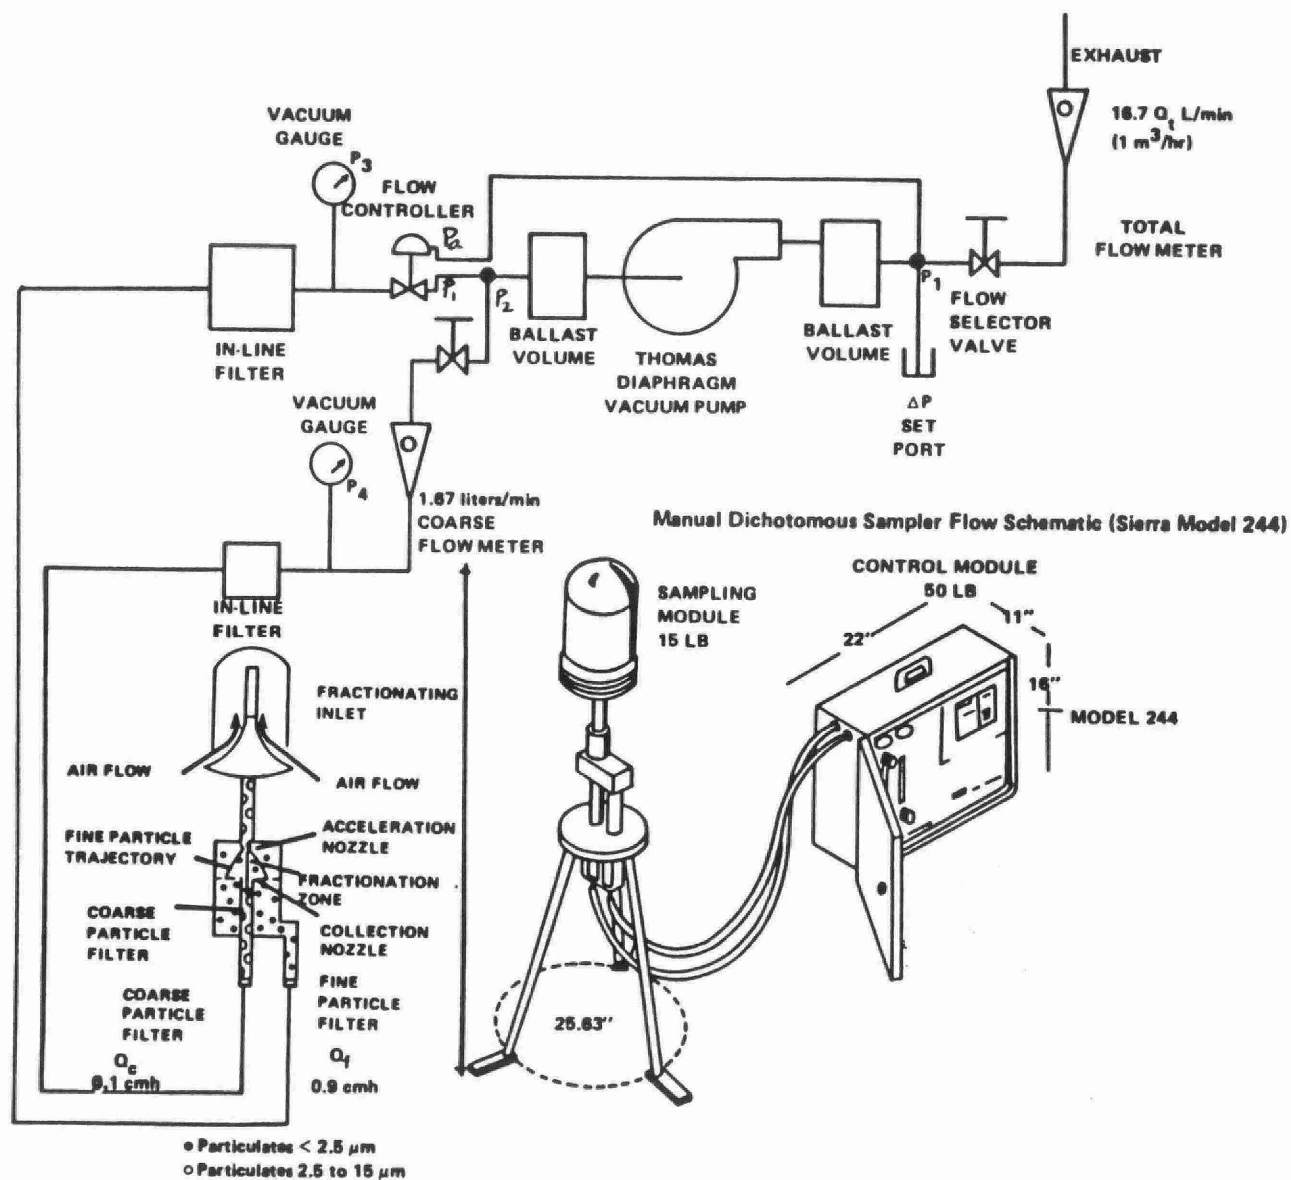

Figure 1.1 Manual dichotomous sampler used in IP Network—Sierra Model 244.
Two models of dichotomous samplers are currently used in the Inhalable Particulate (IP) Network. The Sierra Model 244 Manual Dichotomous Sampler (Figure 1.1) consists of two modules: the sampling module and the flow control module. This sampler is equipped with a digital timer/programmer and elapsed time indicator. The digital clock has an LED display and d.c. battery standby.
Figure 1.1 illustrates the principle of operation of the Sierra dichotomous sampler; Fig. 1.1 also provides a flow schematic. The coarse-particle flow  $Q_C$  ( $0.1 \text{ m}^3/\text{hr}$ ) is controlled by its flow selector valve, which feeds into pressure gauge  $P_2$  at the inlet of the pump. Flow  $Q_C$  is relatively constant except for small decreases in  $P_4$ , which can occur during sampling. Because  $Q_C$  is small, an error in  $Q_C$  can cause an error of not more than 10 percent in total particle mass concentration.
Flow selector valves and rotameters are provided for setting the total and coarse-particle flow rates ( $Q_t$  and  $Q_c$  in Figure 1.1). Vacuum gauges measure the pressure drop across the fine and coarse particle filters ( $P_3$  and  $P_4$  in Figure 1.1).